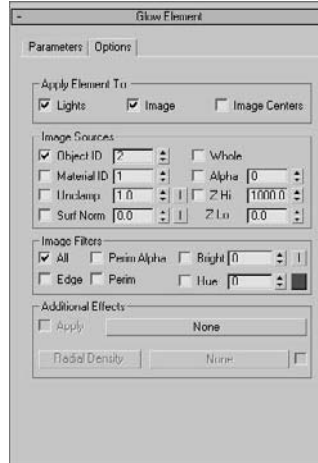

Figure 11.34
7. Click the Options tab. Because you are creating the light bulb's glow through the Light Bulb object's Object ID, set the Object ID parameter to 2, as shown in Figure 11.34. Leave the other parameters at their default values.